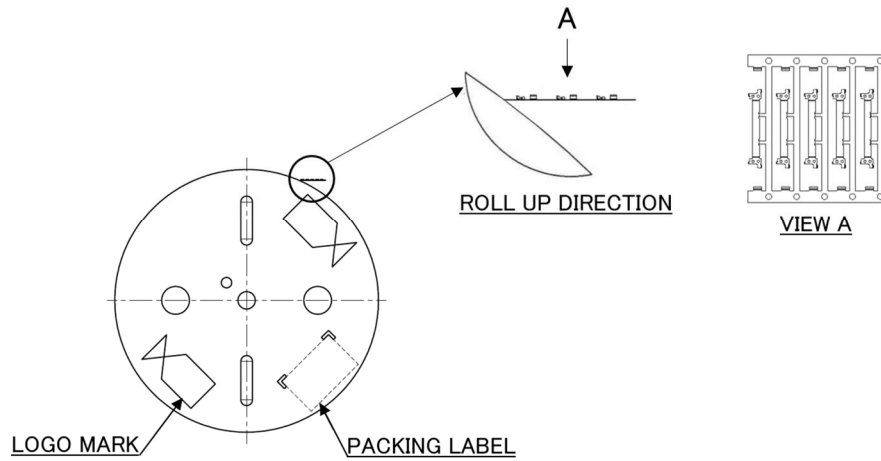

Fig.1
- (1) Coiling of shell to reel follow as shown Fig.1.
- (2) Coiling QTY. is 10000 in reel.